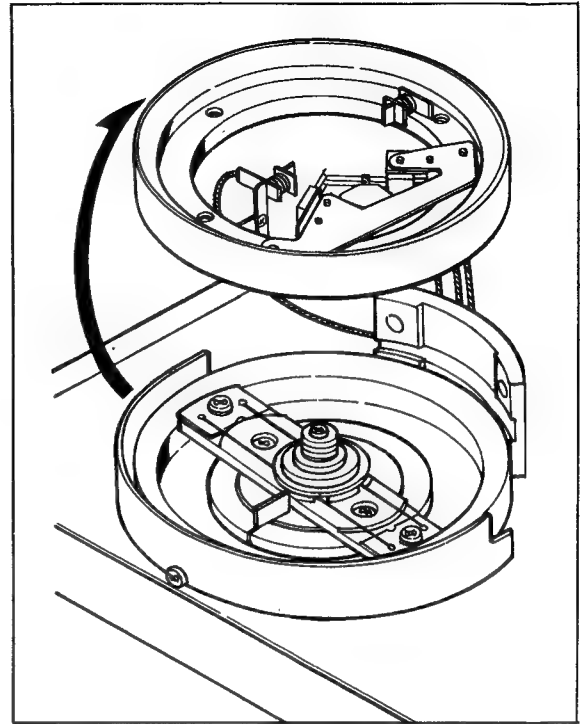

Fig. 4-5. Video head assembly removal
4. Carefully lift the top of the drum assembly and fold it back. Place the drum top carefully on the reel panel. See Fig. 4-5.